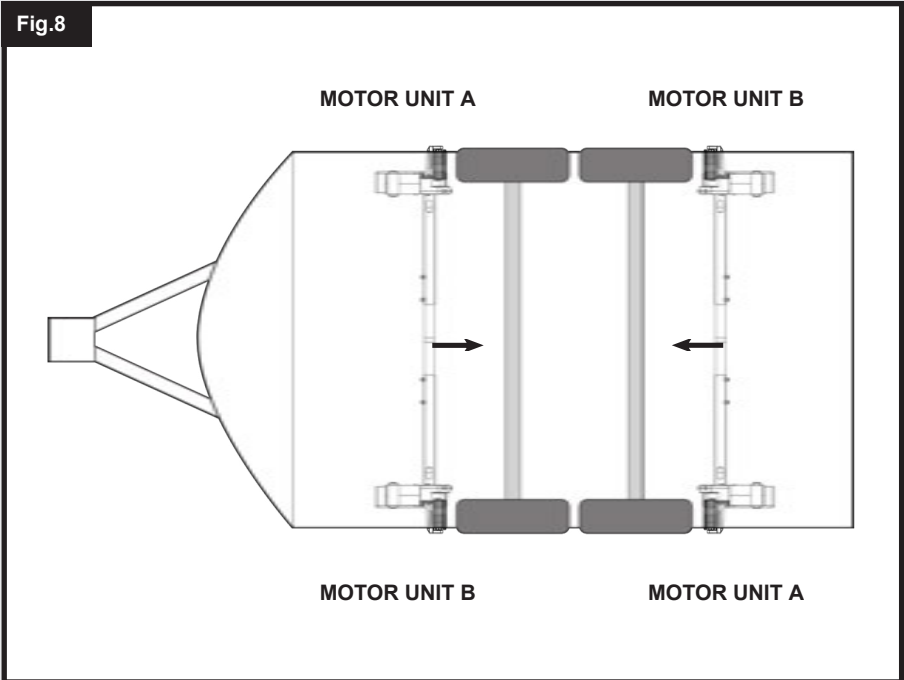

Fig.9
Study Fig.9. On one side of the vehicle, elevate the framework assembly and loosely fit the clamping assembly to the framework and chassis as per Fig.10. Provided clamp fixings (7,16,17,18) must be no more than finger-tight at this stage. Once self supported via the loose fixings, proceed to repeat the process on the other side of the vehicle.
Once satisfied with mover spacing, fully tighten the four nyloc nuts (17) on both clamping assemblies (Fig.9) to a torque setting of 40 ft lbs/55Nm, then the bolts (Fig.1A) on each motor side framework to a torque setting of 9ft lbs/12Nm. Re-check the distance of 20mm from the rollers to the tyres and if necessary, loosen the bolts and re-adjust the position of the assembly. Once satisfied with the position of the assembly, fit and tighten the Chassis Stop Nuts & Bolts (7) in each of the Classic Clamp Upper Plates (8) (see Fig.9). Tighten to a torque setting of 40 ft lbs/55Nm. The Stop Bolts grip the lip of the chassis and help prevent the mover from sliding along the chassis.